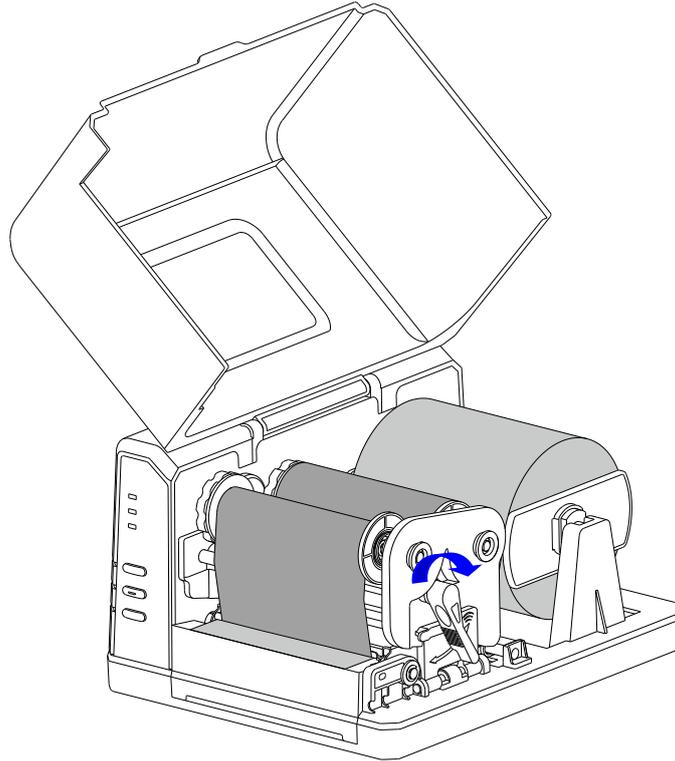

Figure 2-12 Lock the Flip Fastener
6. Close the Flip Fastener and turn the handle to the “close” position. See Figure 2-12.